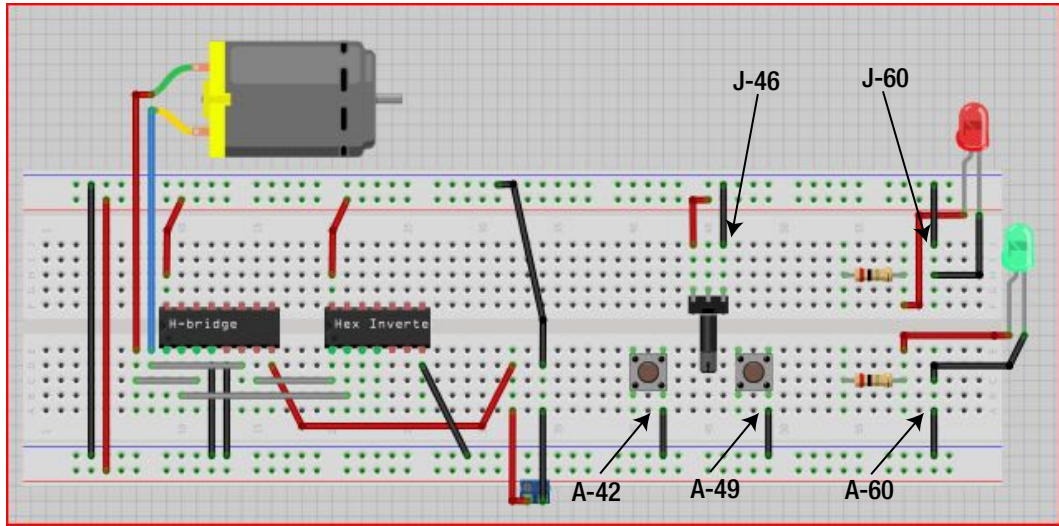

Figure 15-15. Attach ground to the push buttons, potentiometer, and LEDs
23. Insert another jumper wire at the rightmost pin of the potentiometer at J-46 and insert its other end into a free hole nearest the blue line. Figure 15-15 illustrates this process.